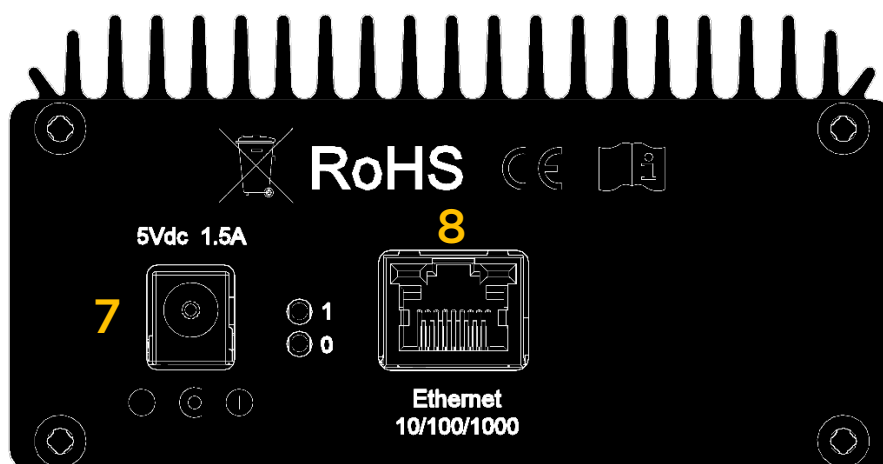

Figure 2: WR-LEN rear view
- Firstly, connect the SFP transceiver and fiber cable to synchronize the WR-LENs (for more info please check out sfps-info). Please notice that by default the WR-LEN is configured as slave at port 1 and as master at port 2 (Figure 2). However, the initial configuration can be modified though the GUI command. Once the connection is done you should observe a green LED ON above the SFP. This LED is called link LED, while the adjacent one is the activity LED.